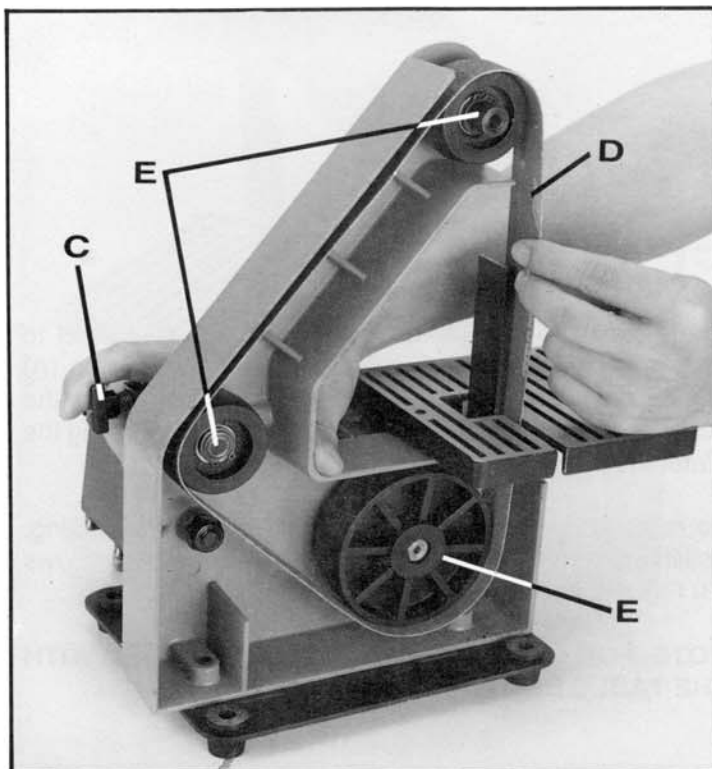

Fig. 17
2. Depress tracking knob (C) Fig. 17, to release belt tension and remove belt (D) from the three wheels (E), as shown.